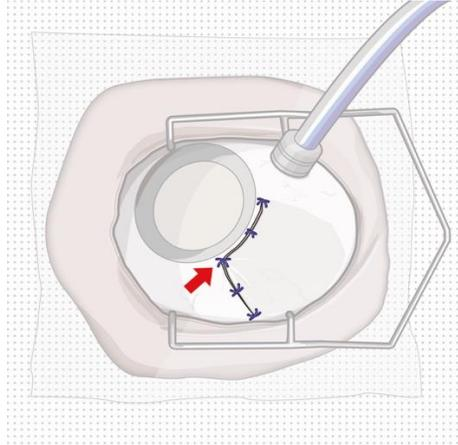

Figure 12
- Close Tenon's capsule and conjunctiva to completely cover the scleral incision (Figure 12).